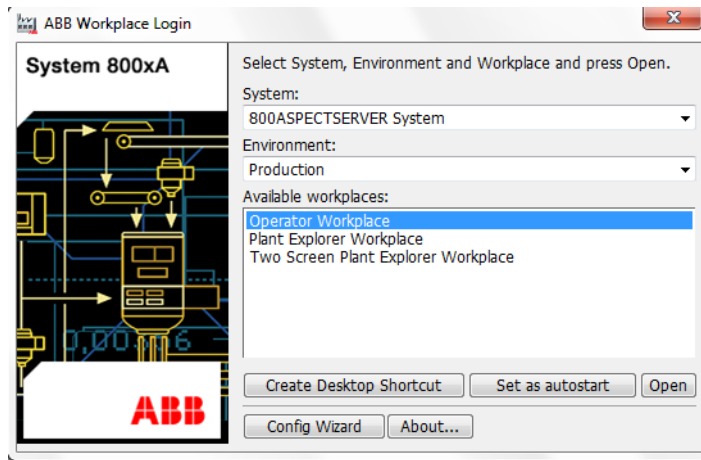

Figure 37. Adding Shortcut to Operator Workplace
- a. Add a Shortcut to **Operator Workplace** through **Start > All Programs > ABB Industrial IT 800xA > System > Workplace**, see Figure 37.